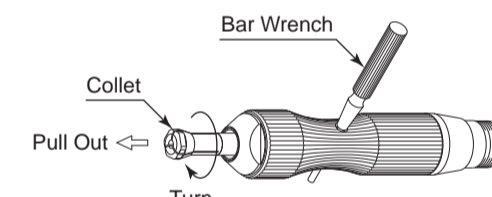

Fig. 5
- Remove the tool as detailed in Section " 8. CHANGING THE CUTTING TOOL " procedure and remove the collet (Fig. 5).